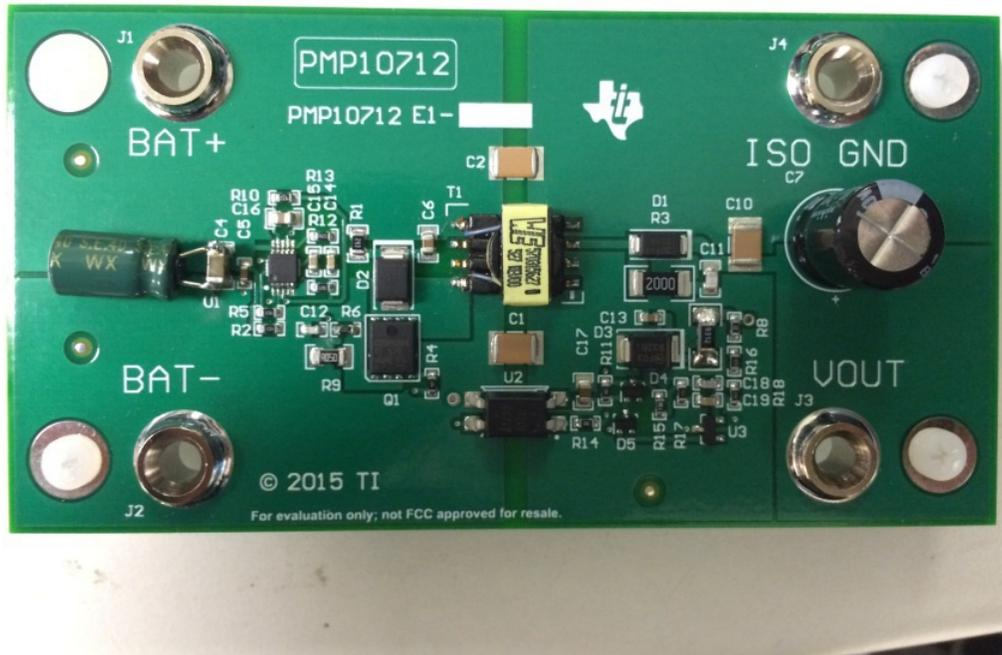

Figure 1. Low V_{in} , Small Form Factor Flyback Reference Design for High Voltage Laser Flash
To demonstrate flyback-converter operation and support our customers' designs, we built the TI Designs Low V_{IN} , Small Form Factor Flyback Reference Design for High Voltage Laser Flash Drives (Figure 1). This design is a 1.2W isolated flyback design that supports very low V_{IN} of 3.3V to 6V and is capable of delivering 10mA at 120V output. The design uses the LM3481 boost controller integrated circuit (IC), which works on current-mode operation and is synchronizable to any frequency between 100 KHz and 1 MHz. This design was built on a two-layer board and is a simple, low-bill-of-materials, low-cost design providing an isolated output. As it is often the most expensive part of the overall solution, developing the design on a two-layer printed circuit board (PCB) helps reduce system-implementation challenges in consumer-based applications.